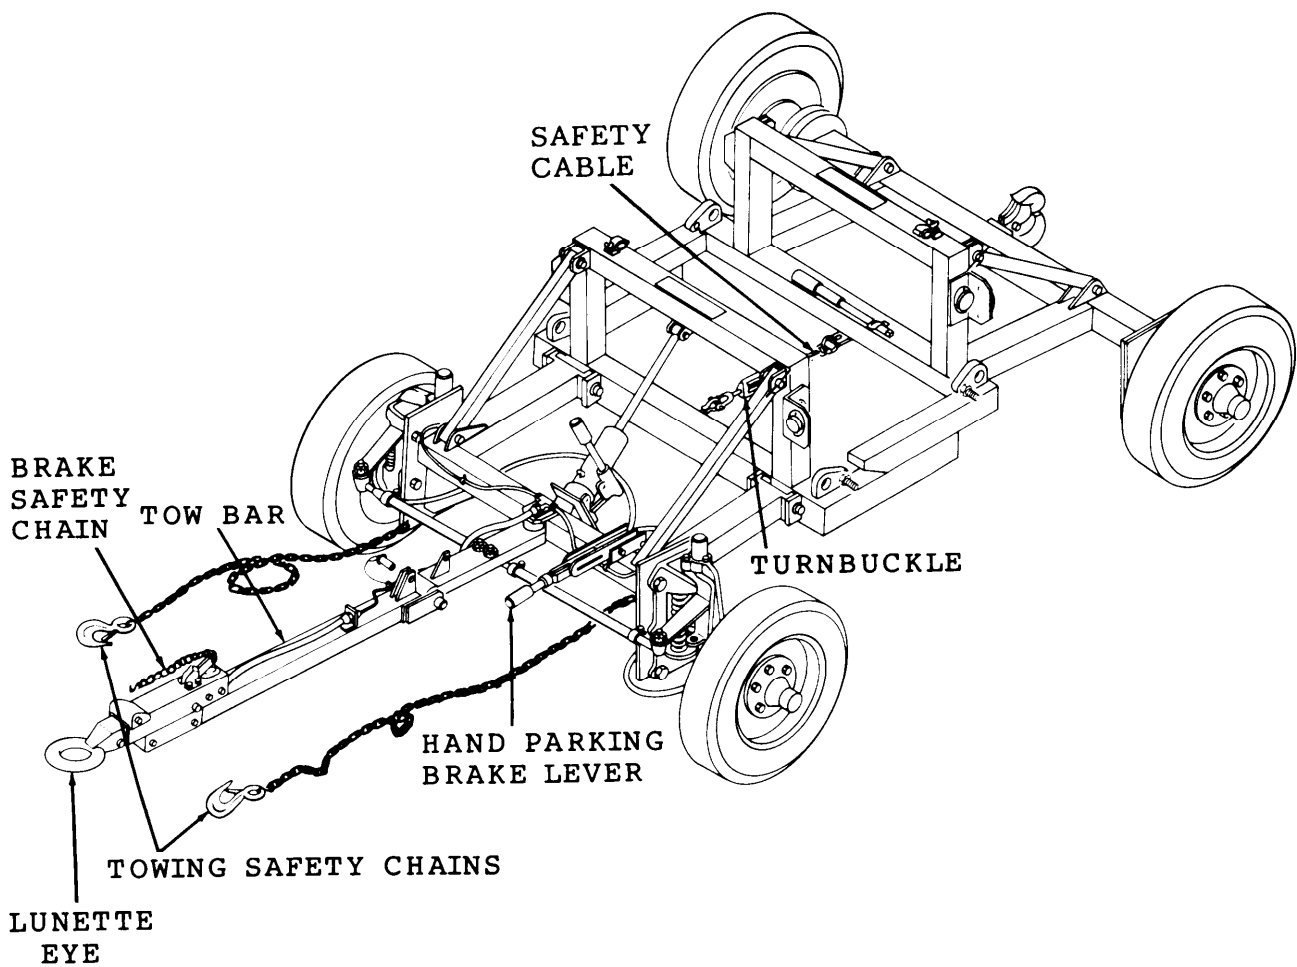

Figure 2-3. Safety Chain Connection.
- b. Attach safety cable to rear transporter shackle (Refer to Figure 2-3).